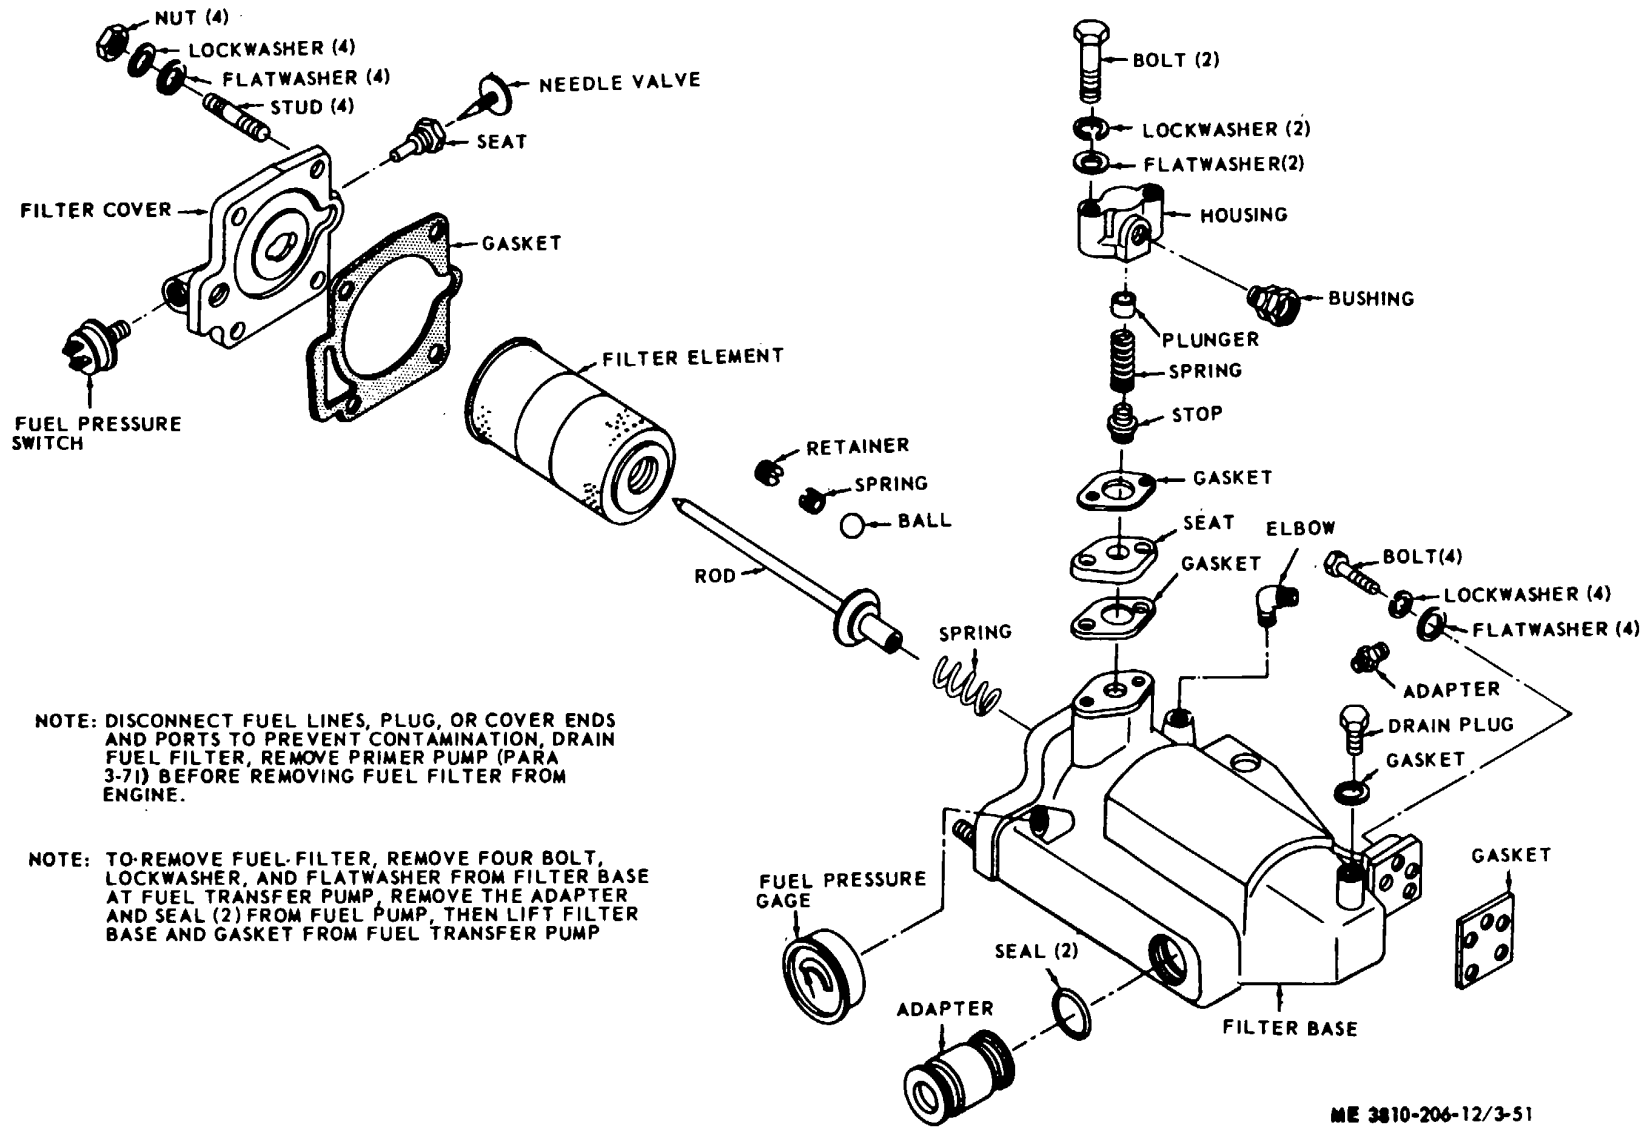

Figure 3-51. Fuel filter (for engine model D333TA), removal, disassembly, reassembly, and installation.
(2) *Disassembly and reassembly.* Refer to figure 3-51, perform step 3, and disassemble fuel filter. Reassemble in reverse order.